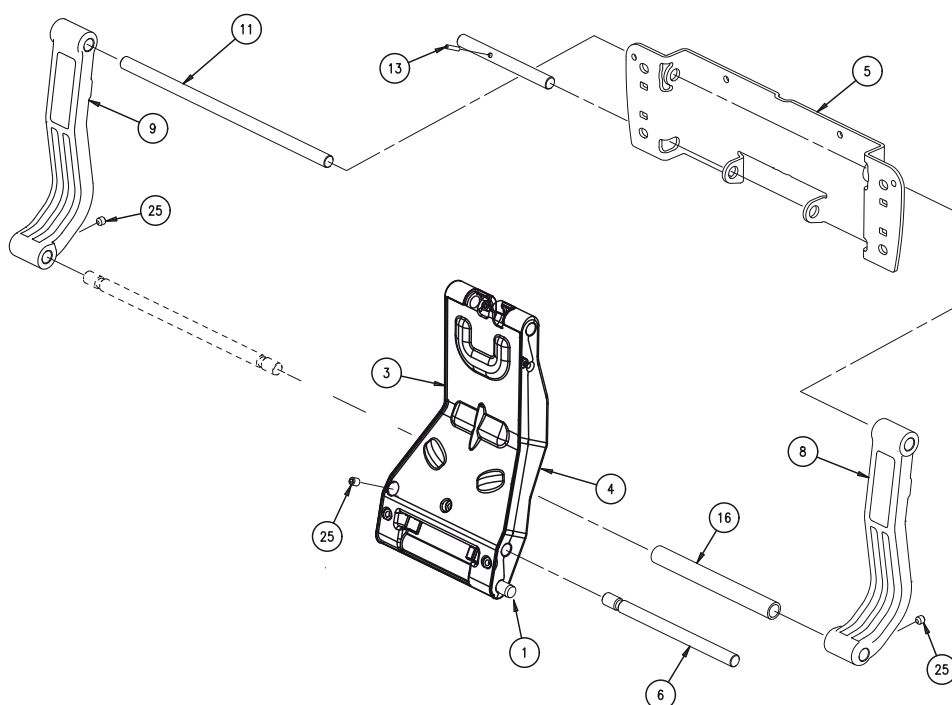
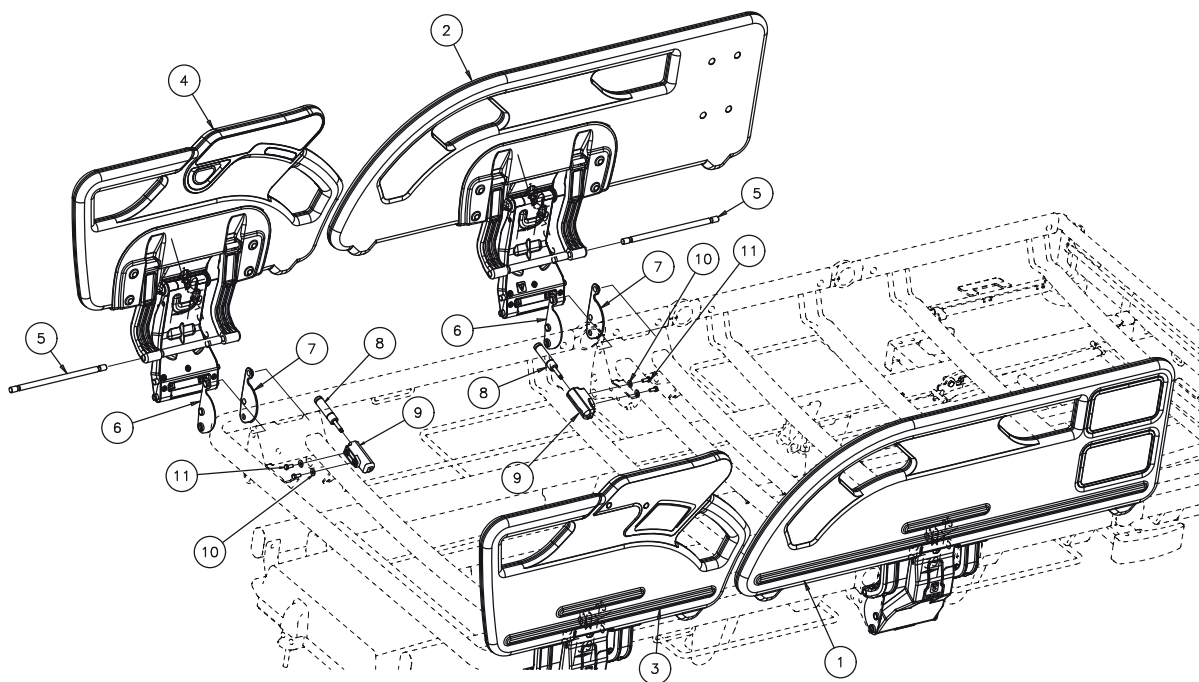

Figure 20: Safety Side Arm Assembly
Figure 21: Safety Side Module
Parts in Figure 20 are included in kits listed in Figure 21.
This section describes how to replace the head end split side rail. Reference is made throughout this section to Figure on page 22, Figure 20 on page 62 and Figure 21 on page 64.
- 21.1.3 Use the hoist to support the split side rail. Slacken the two socket head set screws (Fig 20, Item 13) in the split side rail upper arms (Fig 20, Item 8) and (Fig 20, Item 9). Drive out the upper arm pivot pin (Fig 21, Item 5) towards the head end and collect the spacer (Fig 20, Item 12).
- 21.1.4 Slacken the socket head set screw (Fig 20, Item 13) in the split side rail lower arm (Fig 20, Item 4). Drive out the lower arm pivot (Fig 20, Item 6).
- 21.1.5 Lift the split side rail release lever to retract the plungers (Fig 20, Item 1) and (Fig 20, Item 2) and remove the head end split side rail module (Fig 21, Item 3) or (Fig 21, Item 4) from the bed. If necessary, remove the split side rail bearing plates (Fig 21, Item 6) and (Fig 21, Item 7).
- 21.2.1 Fit the split side rail bearing plates (Fig 21, Item 6) and (Fig 21, Item 7) if removed previously. Use the split side rail plungers (Fig 20, Item 1) and (Fig 20, Item 2) to position the head end split side rail assembly (Fig 21, Item 3) or (Fig 21, Item 4) on the bed.
- 21.2.2 Line up the lower fixing holes in the split side rail lower arm (Fig 20, Item 4) with the corresponding holes on the sub-frame assembly. Drive in the lower arm pivot pin (Fig 20, Item 6). Tighten the set screw (Fig 20, Item 13) in the lower arm, ensuring that it engages the groove on the lower arm pivot pin.
- 21.2.3 Install the spacer (Fig 20, Item 12) and drive in the upper arm pivot pin (Fig 20, Item 11). Tighten the socket head set screws (Fig 20, Item 13) in the split side rail upper arms (Fig 20, Item 8) & (Fig 20, Item 9), making sure they engage in the grooves in the upper arm pivot pin.
This section describes how to replace the foot end split side rail. Reference is made throughout this section to Figure on page 22, Figure 20 on page 62 and Figure 21 on page 64.
- 22.1.2 Undo the hex head screw (Fig 21, Item 11), collect the washer (Fig 21, Item 10) and remove the cable tie from the extension cable.
- 22.1.3 Use the hoist to support the split side rail. Slacken the two socket head set screws (Fig 20, Item 13) in the split side rail upper arms (Fig 20, Item 8) and (Fig 20, Item 9). Drive out the upper arm pivot pin (Fig 13, Item 1) and collect the spacer (Fig 20, Item 12).
- 22.1.4 Slacken the socket head set screw (Fig 20, Item 13) in the split side rail lower arm (Fig 20, Item 4). Drive out the split side rail lower arm pivot (Fig 20, Item 6).
- 22.1.5 Lift the split side rail release lever to retract the plungers (Fig 20, Item 1) and (Fig 20, Item 2) and remove the foot end split side rail module (Fig 21, Item 1) or (Fig 21, Item 2) from the bed. If necessary, prize off the split side rail bearing plates (Fig 21, Item 6) and (Fig 21, Item 7).
- 22.2.1 Fit the split side rail bearing plates (Fig 21, Item 6) and (Fig 21, Item 7) if removed previously. Use the split side rail plungers (Fig 20, Item 1) and (Fig 20, Item 2) to position the foot end split side rail assembly (Fig 21, Item 1) or (Fig 21, Item 2) on the bed.
- 22.2.2 Line up the lower fixing holes in the split side rail lower arm (Fig 20, Item 4) with the corresponding holes on the sub-frame assembly. Drive in the lower arm pivot (Fig 20, Item 6). Tighten the set screw (Fig 20, Item 13) in the lower arm, ensuring that it engages the groove on the lower arm pivot pin.
- 22.2.3 Install the spacer (Fig 20, Item 12) and drive in the upper arm pivot pin (Fig 20, Item 11). Tighten the two set screws (Fig 20, Item 13) in the split side rail upper arms (Fig 20, Item 8) and (Fig 20, Item 9), making sure they engage in the grooves in the upper arm pivot pin.
- 22.2.4 Fit the cable tie over the extension cable (Fig , Item 21), and secure it below the split side rail with a washer (Fig 21, Item 10) and hex head screw (Fig 21, Item 11). Check that the extension cable runs freely through the P-clip.
This section describes how to replace the split side rail damper. Reference is made throughout this section to Figure 21 on page 64.
- 23.1.1 Unscrew the split side rail damper assembly (Fig 21, Item 8) from the housing (Fig 21, Item 9); the damper has a screwdriver slot at one end that can be accessed from the rear of the housing.
- 23.2.1 Screw the new damper assembly (Fig 21, Item 8) tightly into the damper housing.